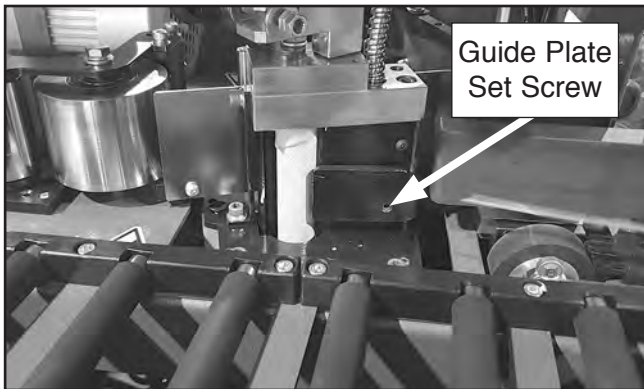

Figure 52. Location of guide plate set screw.
- Turn set screw located in face of guide plate to adjust depth (see **Figure 52**).